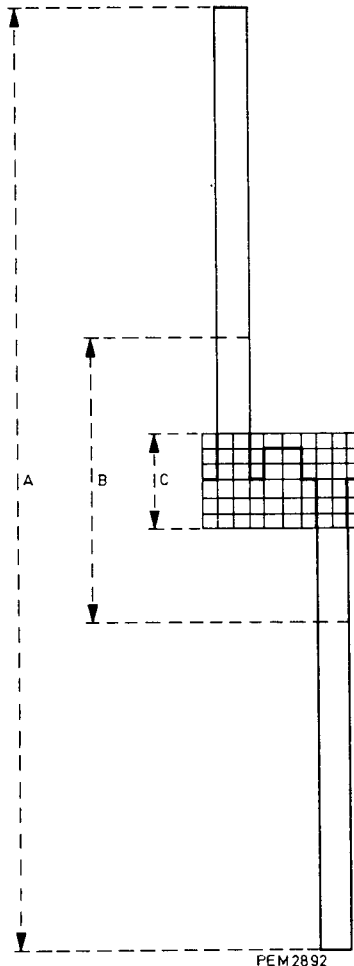
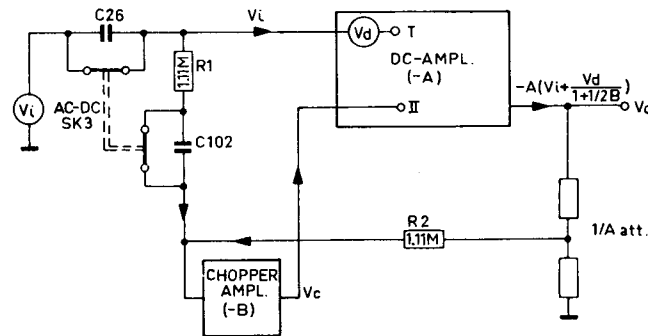

Fig. 9. Limits of Y-deflection
Fig. 10. Control loop
Fig. 9 shows the maximum permitted magnification (A) of a signal together with the portion of the signal (B) which may be displayed on the screen using the POSITION control.
The output of the d.c. coupled l.f. amplifier ( $V_o$ ) is attenuated by a factor A, at the  $1/A$  attenuator. Voltage  $V_i$  is fed to one end of the voltage divider formed by  $R_1$  &  $R_2$  (fig. 10). The other end of this divider is supplied by voltage  $V_o/A$ .
Since  $B \approx 1000$ , it is clear that drift is reduced by a factor of  $\approx 500$ . With the AC-DC switch SK3 set to AC, capacitor C102 is connected in series with  $R_1$  (Fig. 10) so that the voltage divider formed by  $R_1$  &  $R_2$  (Fig. 9) is blocked to d.c. Any leakage voltage of C26 is added to the voltage  $V_d$ : consequently, the new drift voltage
With the AC-DC switch set to AC, small a.c. signals superimposed upon a maximum of 400 V.d.c. may be observed. At the same time, relay RE101 is energized and this causes C102 to be connected into the comparison circuit which is represented by R1, R2 & C102 in Fig. 10.
When the step attenuator is set to its four smallest deflection coefficients (i.e. 0.5 mV/cm, 1 mV/cm, 2 mV/cm and 5 mV/cm) no attenuation is applied to the input signal. Trimmers C18, C21, C24 and C29 enable the input capacitance to be adjusted to exactly 15 pF. For all the remaining deflection coefficients, attenuator networks are connected between the input terminal and source follower TS101. Trimmers C33, C36, C39, C43, C47, C51, C54, C58 enable the input capacitance to be adjusted to exactly 15 pF, whilst optimum square wave response can be obtained by means of C32, C34, C38, C42, C46, C49, C53, C57. The 1.11 M $\Omega$  resistor shown schematically as R1 in Fig. 10 is formed by two resistors (R102 & R103, 110 K $\Omega$  and 1 M $\Omega$  respectively) which are series-connected in order to form a value which results in a 1 M $\Omega$  input resistance. Note that the series combination formed by R102 and R103 is in parallel with the gate current compensation network which includes the 10 M $\Omega$  resistor R104. This gate compensation network (which also includes resistors R106, R107, R110, R115 & potentiometer R108) supplies either a positive or negative current, depending upon the setting of R108. This current is required by the source follower stage TS101 which supplies the input signal to the split band amplifier.